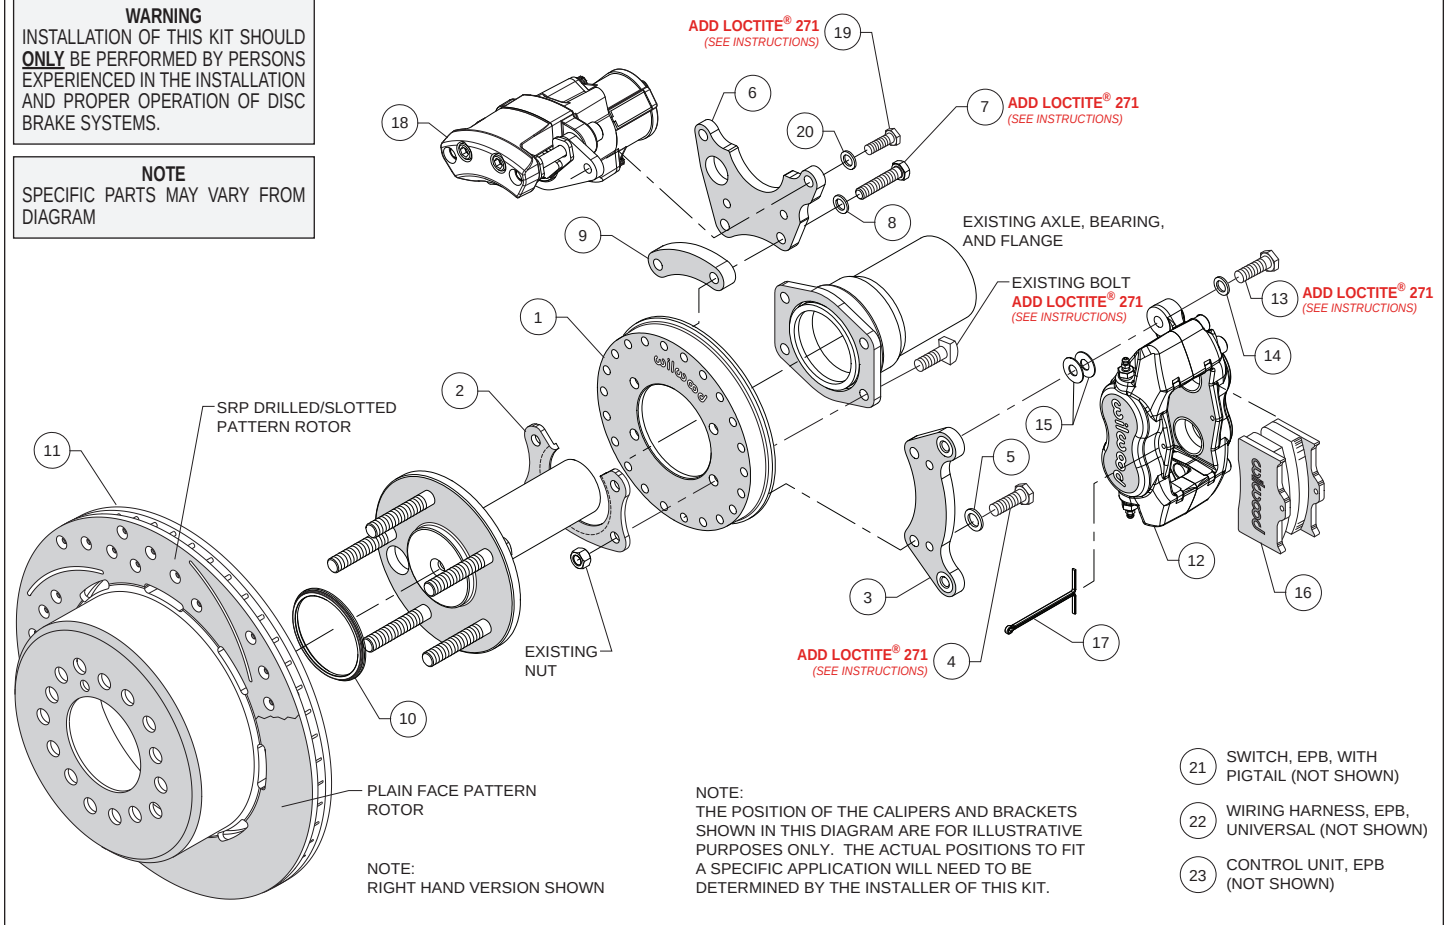

Figure 1. Typical Installation Configuration
(numbers in parenthesis refer to the parts list, and Figure 1 on the preceding pages):
- Orient the backing plate (1) as shown in Figure 1 and Photo 1, and slide it onto the axle housing flange. Ensure the backing plate fits flush against the axle housing flange. Reinstall the axle into the axle housing.
- Install the bearing retainer (2) with the opening pointing upward and the lip facing inward (toward the bearing), as shown in Figures 1 and 4, and Photo 2. Secure retainer and backing plate to the axle housing flange using the Original Equipment Manufacturer (OEM) bolts and nuts, Figure 1 and Photo 3. Apply red *Loctite*® 271 to the OEM bolt threads and torque to OEM specifications.
- Start by determining the best location for the service caliper (12). This caliper is usually mounted in the 3:00 or 9:00 o'clock position, but may be rotated up or down approximately 45 degrees and still allow for proper bleeding, Photo 4. Orient the service caliper bracket (3) as shown in Figure 1 and Photo 5, and install to the backing plate (1) in the desired location using bolts (4) and washers (5). Temporarily tighten bolts. Next, mount the service caliper to the bracket using bolts (13) and washers (14). Temporarily tighten bolts. Check that the caliper (including inlet fitting and hose) has sufficient clearance to all surrounding components through the full suspension travel. Relocate the caliper/bracket on the backing plate as needed to ensure proper clearance is achieved.
- Determine the best location for the EPB caliper (18). **NOTE:** *The EPB caliper motor extends farther inboard than the service caliper and therefore needs additional consideration when determining a mounting location with sufficient clearance.* In the example application shown in Photo 6, the EPB caliper has sufficient inboard clearance to the leaf spring. However, if the EPB caliper were mounted closer to the 12:00 o'clock position, the inner body of the vehicle would hit the caliper during full compression of the suspension.